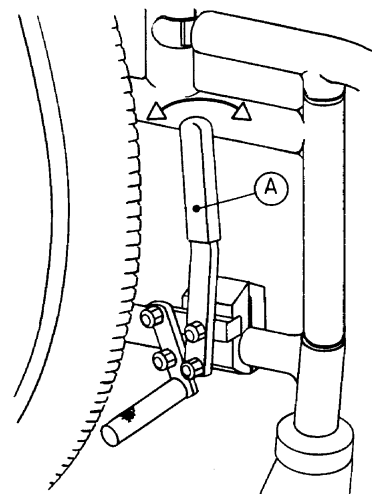

Figure 2
##### 2 Apply the brake by pushing lever (A) forward (see FIG 2).